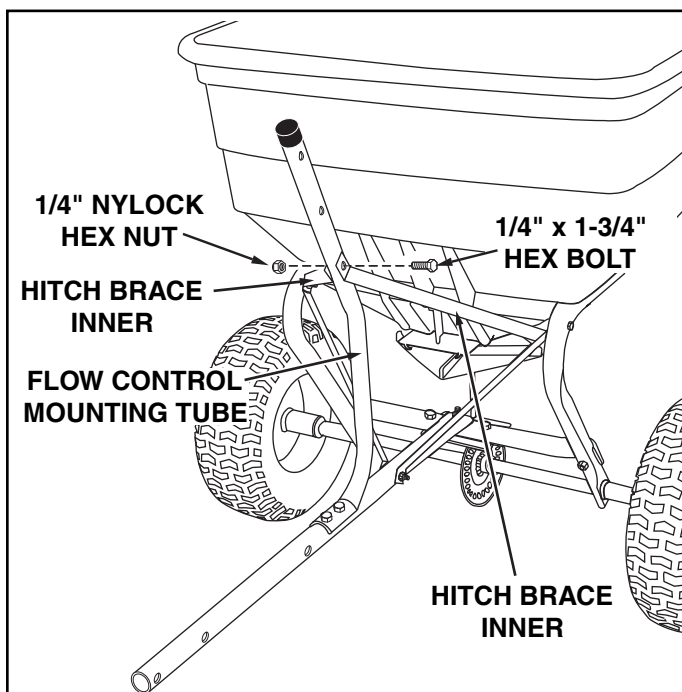

FIGURE 6
- Assemble the two **INNER** hitch braces to the flow control mounting tube using a 1/4" x 1-3/4" hex bolt and a 1/4" nylock hex nut. **DO NOT TIGHTEN YET.** See figure 6.